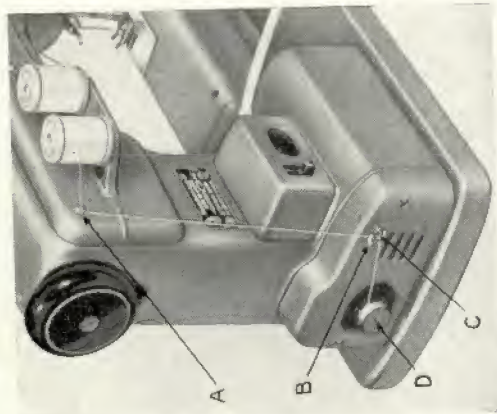

Fig. 6.
Place a spool of thread on the spool pin nearest the hand wheel. Run the thread through the thread guide (A, fig. 6) and down under the guide (B) on the tension device and back between the tension discs (C).